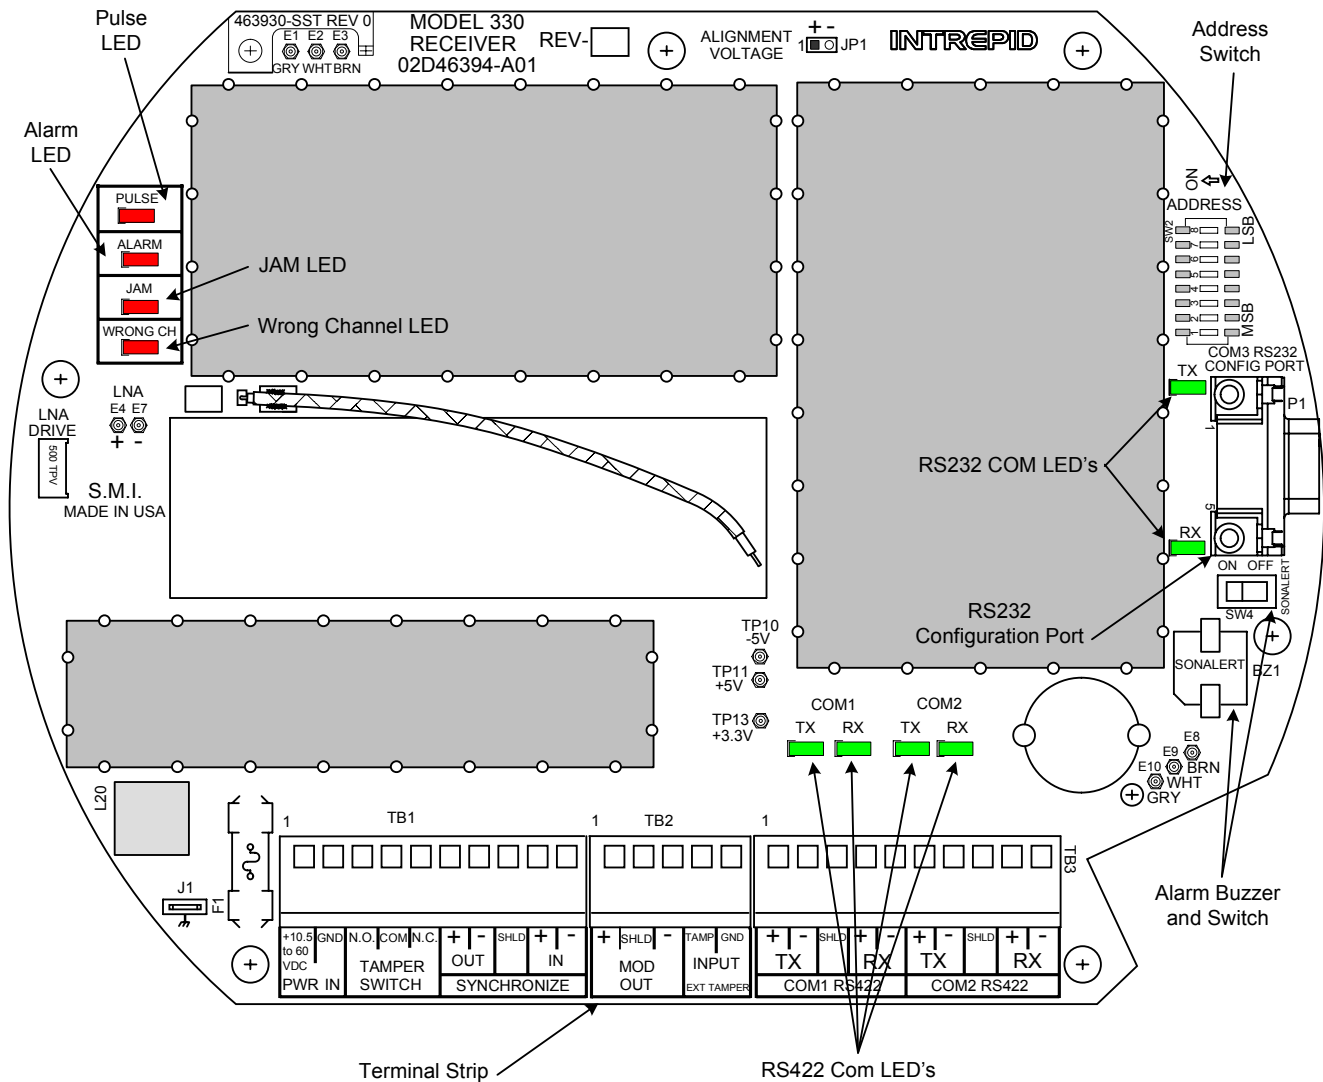

Figure 30 – MicroWave 330R Receiver
The electrical connections, switches and indicators for the MicroWave 330R receiver are shown in Figure 30.
3. Make connections to the terminal strip according to labeled terminal functions as shown in Figure 30.